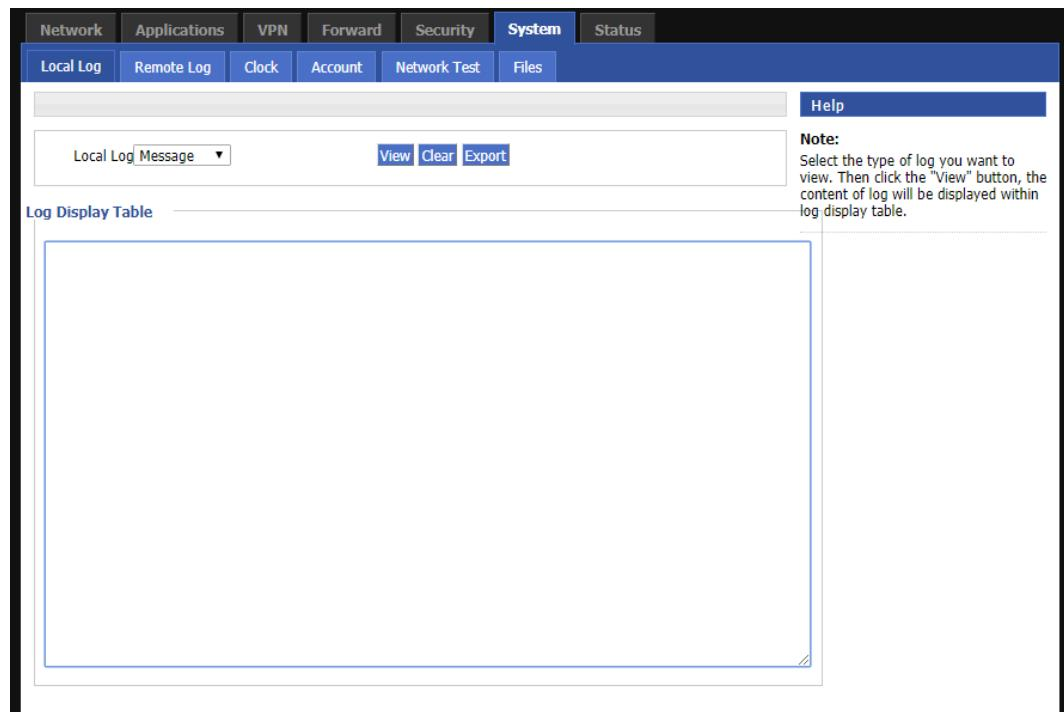

Figure 5-56 Local log tab
Step 2 Click System Administration>Local Log to open the Local Log tab, as shown in Figure 5-56.